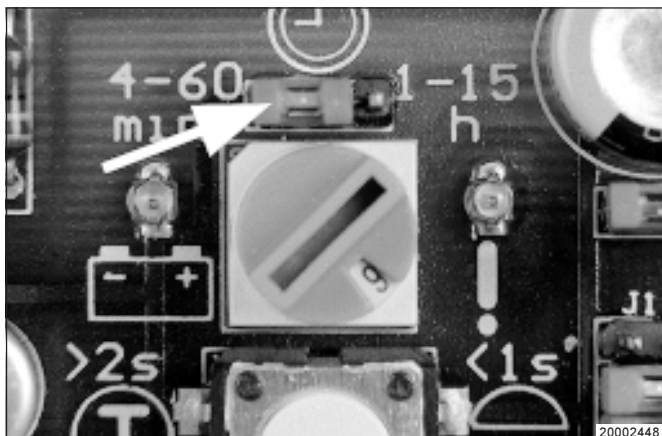

Fig. 15 - Preselection of the time ranges
- The time ranges (hours or minutes) can be changed by replugging the jumper on the printed circuit board (Fig. 15).